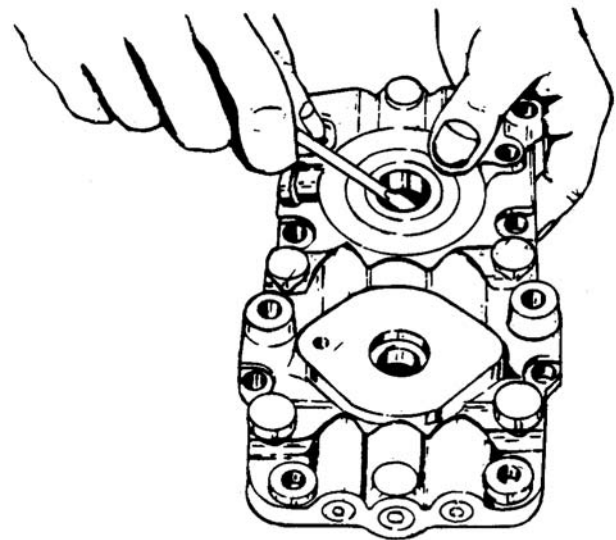

Figure 6-36. Removal of Oil Seal
8. Oil seal (center section) removal. Pry oil seal out with screwdriver. Take care not to damage center section. See Figure 6-36.